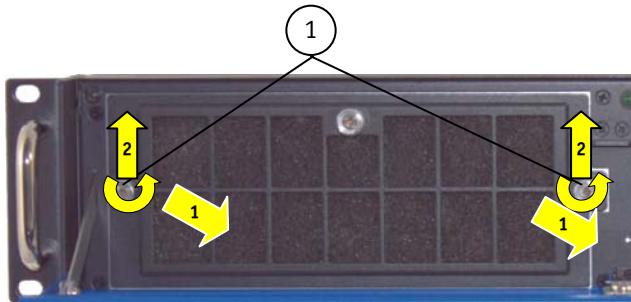
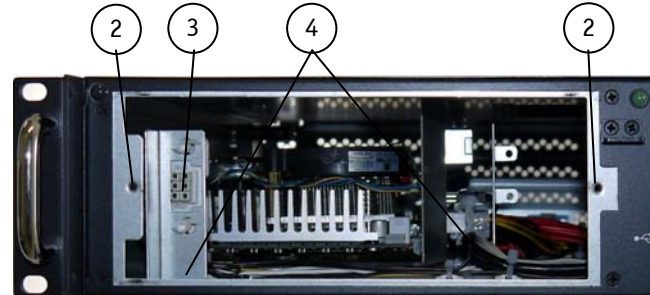

Fig. 30: Detail: removing the fan slide-in module
Fig. 31: Detail: Fan compartment (without fan slide-in module)
3. Loosen the two knurled screws of the fan slide-in module (Fig. 30, pos. 1)
4. Pull the fan slide-in module out to disconnect it from the internal fan control socket (Fig. 31, pos. 3).
5. Lift the slide-in module upwards in the arrow direction to remove it from the fan compartment (see Fig. 31).
Legend for Fig. 30 and Fig. 31:
7. Slide the fan slide-in module with mounted filter mat holder (Fig. 34) into the fan compartment (Fig. 31, pos. 4).
8. Push the fan slide-in module into the fan compartment until the fan control connector (Fig. 33, pos. 2) is firmly inserted into the socket (Fig. 31, pos. 3).
9. Fasten the knurled screws of the fan slide-in module (Fig. 30, pos. 1)